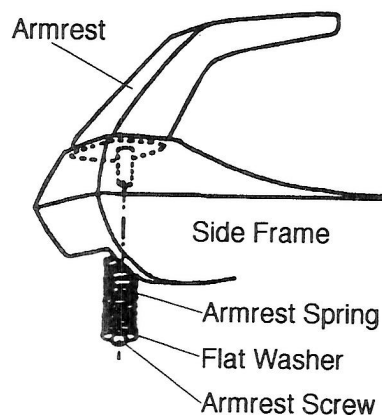

Figure 4
7) Attach armrest to side frame as shown in Figure 4 (it may be necessary to lightly lubricate shaft).